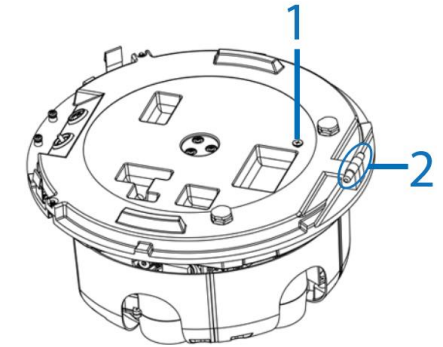
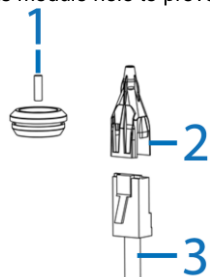
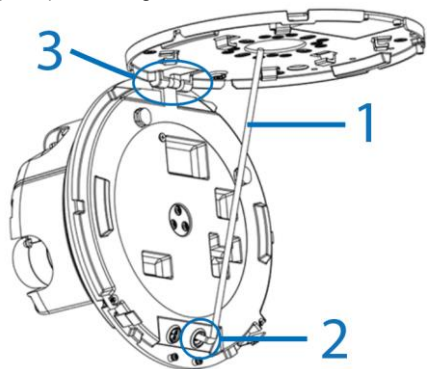

Figure 5
Figure 6
Figure 7
10. Hold the camera lens module up to the mounting plate and insert the 'loop' on the safety lanyard (1) (Figure 4) that is attached to the mounting plate to the screw (1) (Figure 5) on the camera lens module.
11. Insert the 'hinge pins' (2) (Figure 5) on the camera module lens into the 'hinge knuckle' on the mounting plate. **'3' in Figure 7 identifies how the camera lens module and mounting plate attach together.**
13. Insert the RJ-45 cable (3) (Figure 6) into the insert tool (2) (Figure 6) remove the rubber grommet (2) (Figure 7) from the camera lens module.
14. Pierce the rubber grommet (1) (Figure 6) by passing the insert tool and cable through the center of the rubber grommet.
15. Pass the insert tool and cable (1) (Figure 7) through the rubber grommet hole (2) (Figure 7) on the camera lens module.